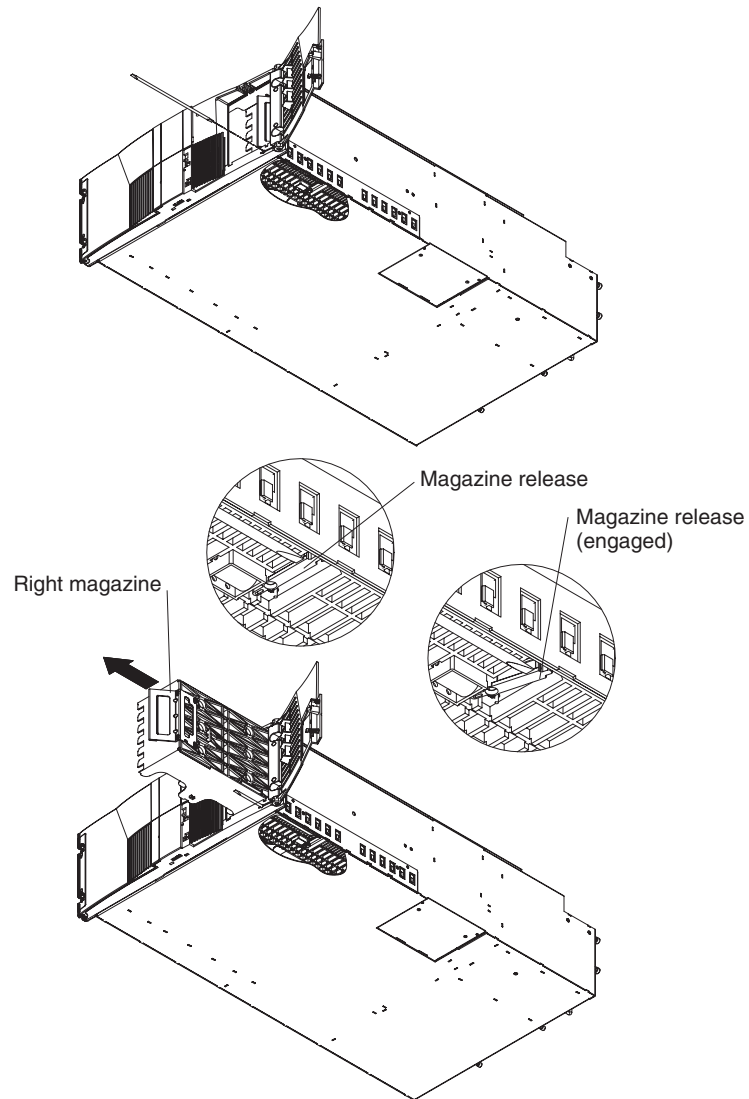

Figure 16. Magazine release
3. Insert the wooden dowel that is provided in the accessory kit into the magazine release hole and actuate the magazine release mechanism as shown in Figure 16 on page 39.